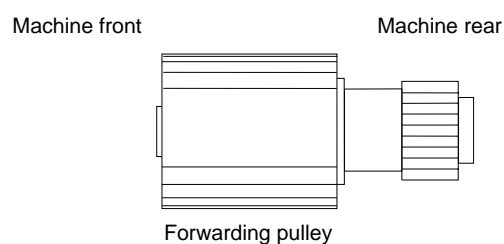

Figure 1-6-6
- When fitting the forwarding pulley, orient it correctly as shown in Figure 1-6-6.